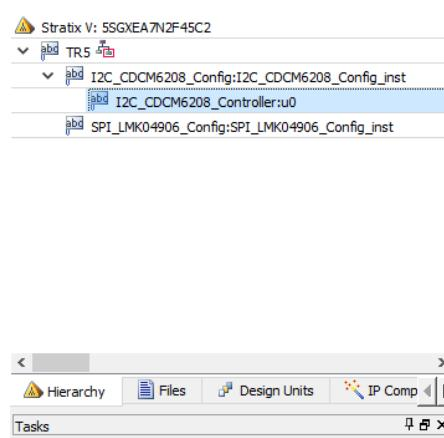
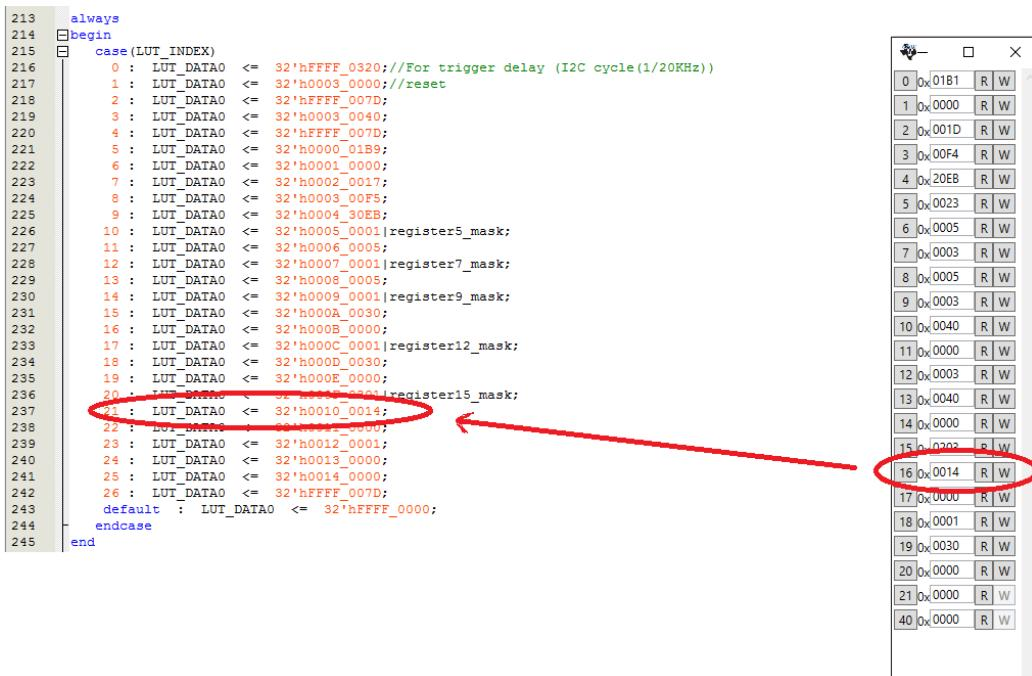

Figure 5-7 Sub-Module file "I2C_CDCM6208_Config.v"
Figure 5-8 Modify CDCM6208 Control IP Base on Register Table
- Open CDCM6208 control IP sub-module “I2C_CDCM6208_Config.v” as shown in Figure 5-7, refer to Register Table to modify all the sub-module corresponding register values (See Figure 5-8).